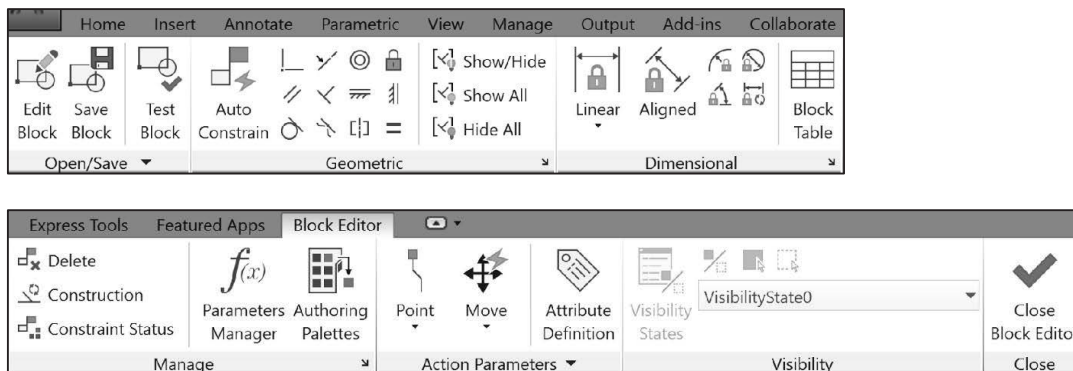

Figure 5.7-2: *Block Editor* tab
- **BEDIT:**  The block edit command allows you to select and edit an existing block. The block edit command temporarily adds a *Block Editor* tab to the ribbon as shown in Figure 5.7-2.